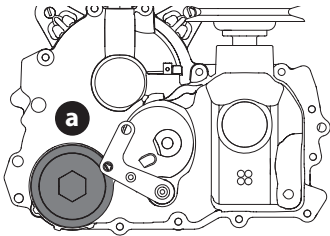
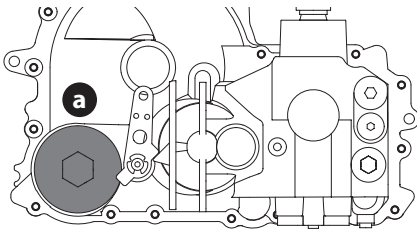

Figure 50
Figure 51
- Place a suitable container under the oil filter cover (a) on the transmission. Remove the oil filter cover from the transmission to drain the oil (Figure 50 for 700 series, Figure 51 for 900 series). Remove and discard the O-ring.
- Replace new filter and fit new O-ring onto filter cover (a) (Figure 50 and Figure 51).